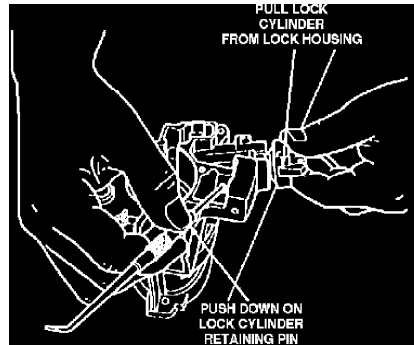

Fig. 4 Removing Ignition Lock Cylinder
7. Push down on lock cylinder retaining pin using a 1/8 inch diameter wire pin or small punch, then pull lock cylinder from column housing, **Fig. 4.**